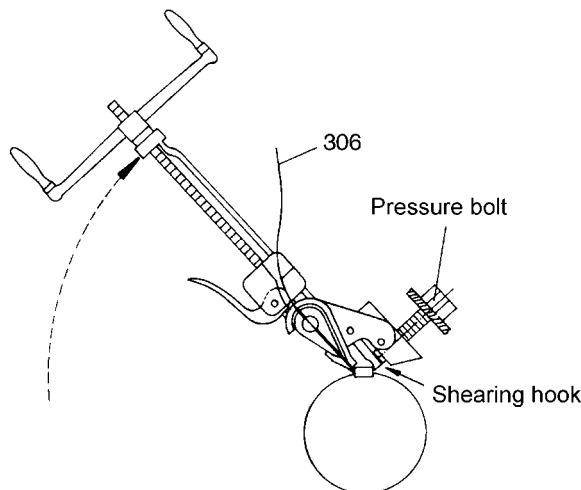

Figure 15: Shearing the joint clamp
- Check that the joint clamp (306) is positioned in the joint collar (308) across the entire circumference in the collar groove.
- Slowly turn the clamping tool by approx. 60° upwards until the shear hook reaches behind the joint clamp lock (see figure 15).